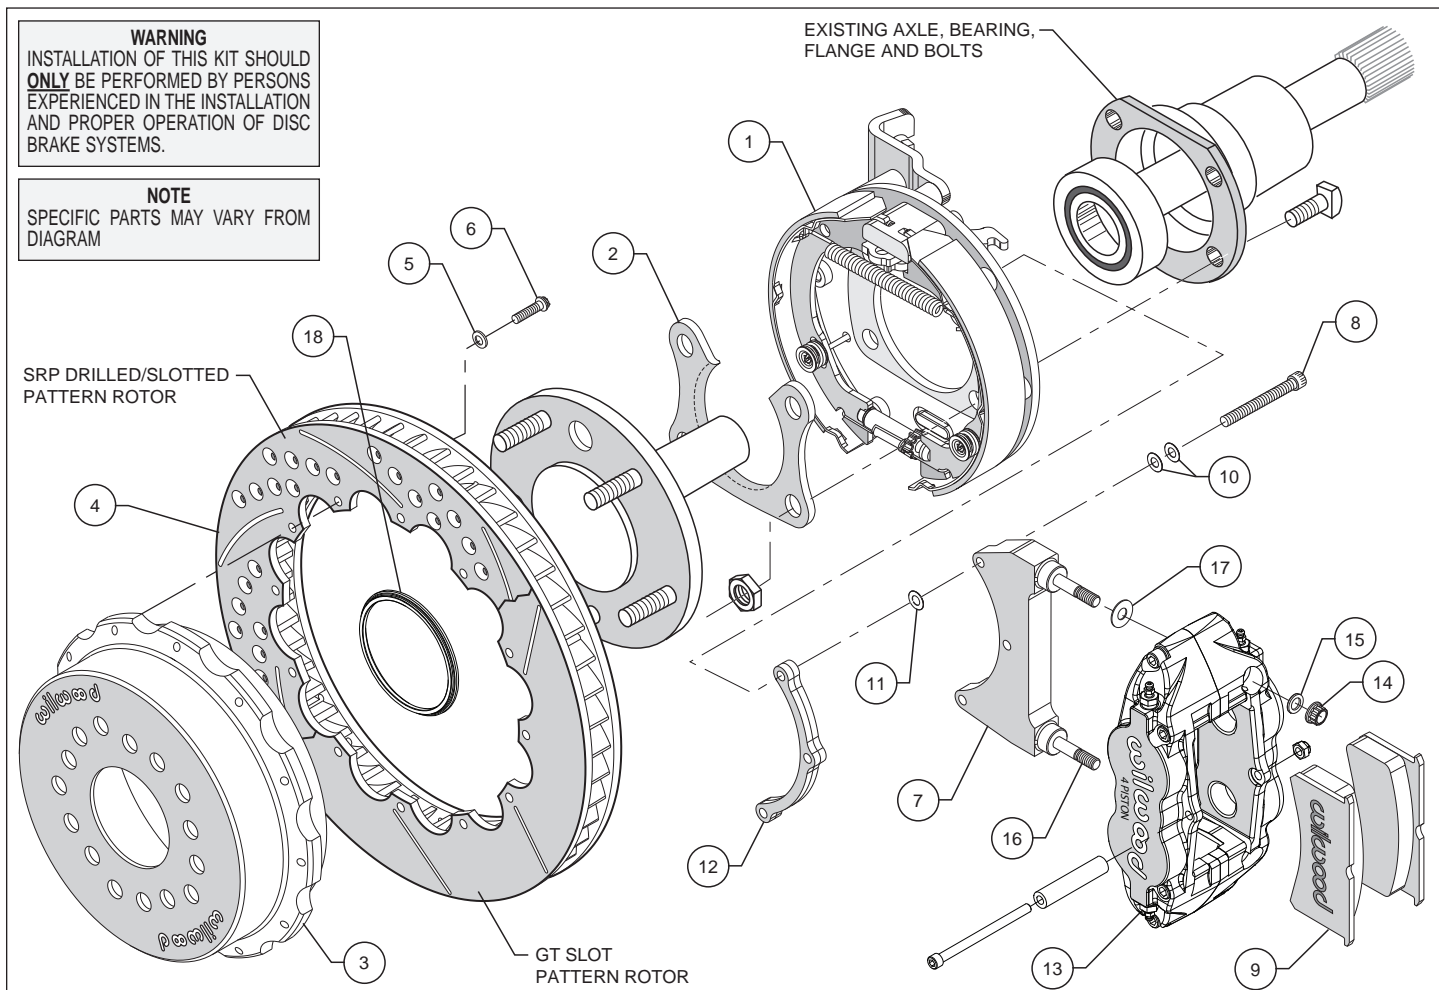

Figure 1. Typical Installation Configuration
- Slide the bracket kit assembly (1) onto the housing flange and then insert the axle assembly through the center hole of the bracket kit assembly (1). Align the bearing retainer (2) as shown in figures 1 and 4, and secure using the stock Original Equipment Manufacturer (OEM) bolts and nuts. Stock OEM hex nuts that retain the bracket kit assembly (1) and retainer (2) should be on the wheel side of the bracket. Apply red *Loctite*® 271 to the stock OEM bolt threads and torque to OEM specifications. Make sure the bracket kit assembly (1) brake pads are FACING OUTWARD TOWARDS THE WHEEL.
- **NOTE:** Please reference the caution statement at the beginning of the assembly instructions. The caliper mounting bracket assembly (7) should be installed first with clean, dry threads on the mounting bolts (8). Install the bracket from the rear side of the bracket kit assembly (1) by sliding bolt (8) through two flat washers (10), bracket (7), shim washer (11) and finally through the spacer (12), see Figure 1. **NOTE:** End of bolt should not exceed inside face of insert. The bracket must tighten squarely against the back side of the bracket kit assembly (1). Inspect for interference from casting irregularities, machining ridges, burrs, etc. Use one thin shim (11) between the bracket (7) and spacer (12) during initial trial fitting.
- Install one washer (17) over each pre-installed stud (16) on the radial mount bracket (7). Slide the caliper (13) in place over the studs and rotor, then install the washer (15) and lock nut (14) to hold the caliper in place. Snug the lock nuts (14) and check that the rotor (4) is centered in the caliper (13). Add or subtract .015" shims (11) as necessary between the caliper mounting bracket (7) and the spacer (12) to center the caliper (13).
- Remove the caliper center bridge pad retainer bolt, nut, and tube from the caliper. Slide the brake pads (9) into place. They should install easily without interference. Check that the outside radius of the brake pad is aligned with the outside diameter radius of the rotor face. Add or subtract shims (17) between the caliper (13) and mount bracket (7) to gain the proper alignment. Reinstall the center bridge pad retainer tube, bolt, and locknut. The locknut should be snug without play in the bolt or tube. Be cautious not to over tighten.
- Adjust the parking brake shoes outward (using a drum shoe adjustment tool available at your local auto parts store) while spinning the hat (3) until a slight drag is felt against the hat/drum. Remove the lug nuts that were holding the hat/rotor in place. Install the wheel and lug nuts. Check to see that the wheel rotates freely without interference.
- Once all clearances have been checked, remove the wheel, caliper, hat/rotor from the bracket kit assembly (1). Secure the caliper mounting bracket (7) to the bracket kit assembly (1) using red *Loctite*[®] 271. Torque bolts (8) to 180 in-lb. Reinstall the hat/rotor assembly and again use lug nuts to hold it in place. Lubricate caliper mounting studs and nuts with lightweight oil, reinstall the caliper, torque the caliper nuts (14) to 30 ft-lb.
- **NOTE:** Clevis and cable kits which attach to the parking brake assembly are not included in the Wilwood parking brake kit. Wilwood offers a generic style parking brake cable kit, P/N 330-9371 for this application which can be ordered separately from your local Wilwood dealer or by calling Wilwood customer service at (805) 388-1188.